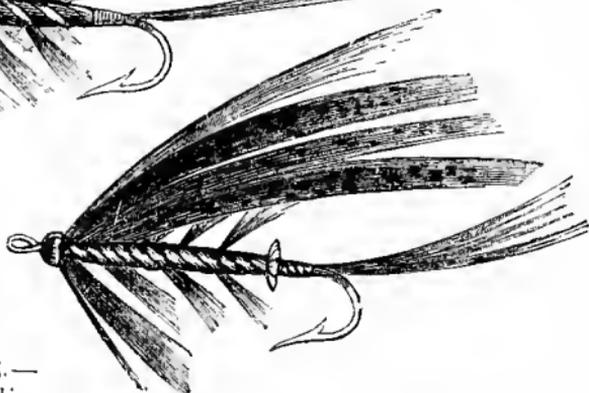

Fig. 245.—
*The Ondine* (Fig. 245).—Body, blue peacock, close ribbed with fine gold twist, two joints of green trojan feather and one of short red orange hackle under the shoulder, blue jay over the butt of the wings, small light blue tag; gold tip and brilliant little topping for tail; wings a careful mixture of fibres of bustard, silver pheasant, yellow and blue macaw, teal, guinea hen, and golden pheasant tail and neck feathers, surmounted by a topping; feelers, blue and yellow macaw; and bright blue silk head.